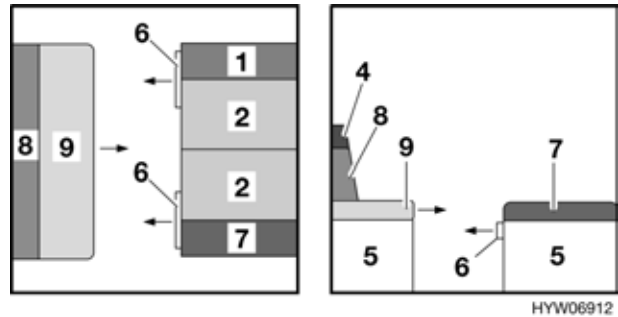

Fig. 77 During conversion
- Pull out as far as possible the bedding box extension (Fig. 77,6) on both bedding boxes of the central seating group.
- Lift the divan slightly (Fig. 77,9) and pull out as far as possible.
- Remove the additional cushion (Fig. 77,4) from the back cushion (Fig. 77,8). The additional cushion is fixed to the back cushion with Velcro and can easily be separated.